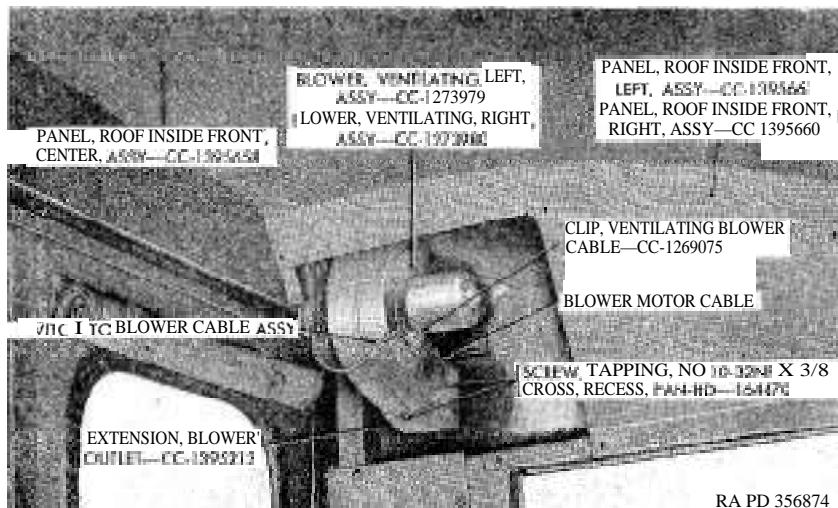
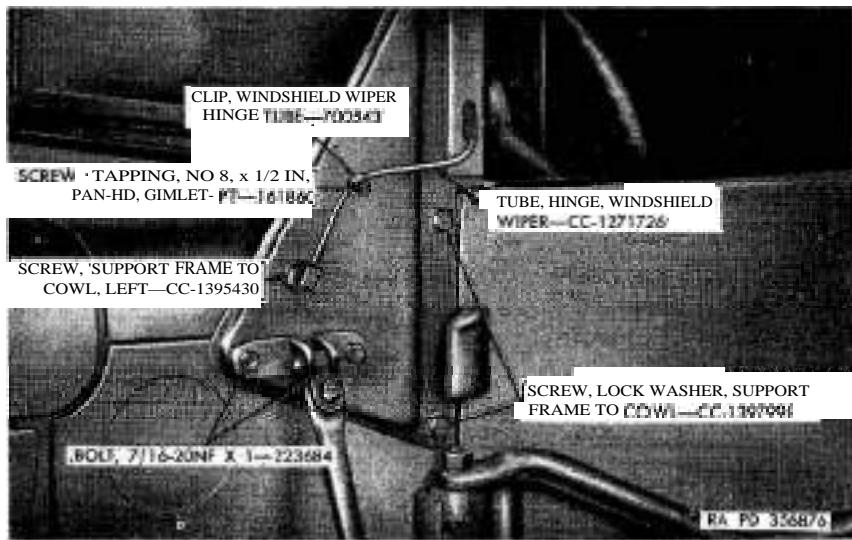

Figure 201. Ventilating blower assembly—installed.
Figure 203. Windshields and support frame assembly to cowl parts.
- (1) Remove roof inside front center panel screws and lock washers, including the spot light extension cable clip and screw. Remove roof inside front center panel assembly (*fig. 201*).
- (2) Remove lock washer screws, which attach the right and left ventilating blower inspection covers to body panels. Remove covers.
- (3) Remove lock washer screws, which attach the roof inside front left panel assembly to body (*fig. 201*). Remove panel assembly.
- (4) Remove screws and spot light extension cable clip from roof inside front right panel assembly. Disconnect spot light extension cable by separating the two connector shells. Remove grommet, bushing, and shell from cable, which extends through right panel.
- (5) Remove lock washer screws, which attach the roof inside front right panel assembly to body. Remove panel assembly and withdraw spot light extension cable from panel assembly.
e. Remove Windshields and Support Frame Assembly (*fig. 203*).
- (1) Remove four screws, which attach each air control blower valve (R) to body partition ; then remove valves.
- (2) Remove four ~~fillister~~ head machine screws (T). This will release each blower outlet louver (U), blower outlet screen (V), and blower outlet gasket (W) from body panel. Remove louvers, screens, and gaskets.
c. Remove Blower Outlet Extensions (fig. 201). Loosen two
d. Remove Right and Left Ventilating Blower Assemblies (fig. 201).
- (1) Remove blower motor cable from ventilating blower cable clip. Disengage switch-to-blower cable assembly from blower motor cable by separating the connector shells.
- (2) Remove nuts and lock washers from studs in blower housing assemblies (litter compartment side).
- (3) Remove right and left ventilating blower assemblies, blower housing gaskets, blower housing spacers, and plain washers (if truck is so equipped) from body.